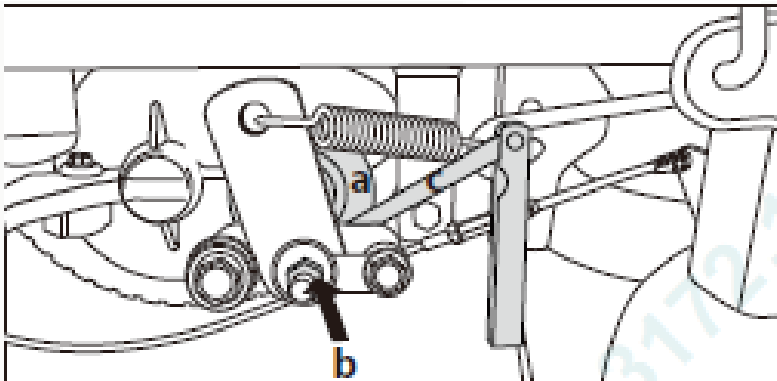

Fig.31
2. While rocking the brake rotor (a) back and forth slowly tighten nut (b) until it's not possible to move the brake rotor. (Fig.31)